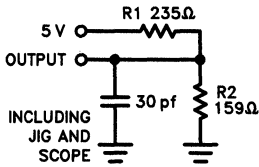

Figure 1a
7. Test conditions assume signal transition times of 5 ns or less, timing reference levels of 1.5V, output loading of the specified IOL/IOH and loads shown in Figure 1a, 1b.